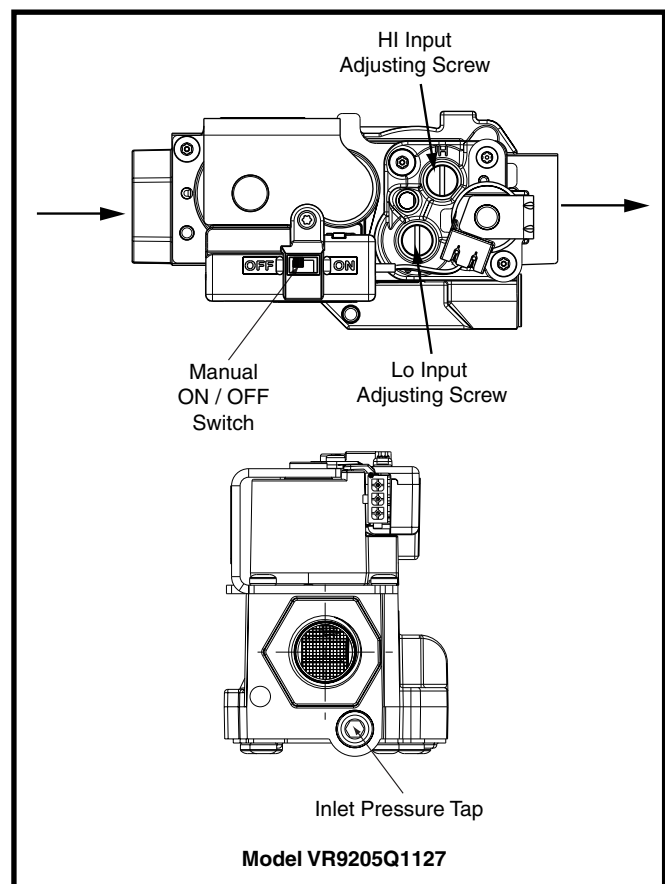

Figure 21. Gas Valve
- b.) Remove the regulator capscrew from the INLET side of the regulator. See Figure 21.
3. Move the manual ON/OFF switch to the OFF position. See Figure 21 \(page 24\).